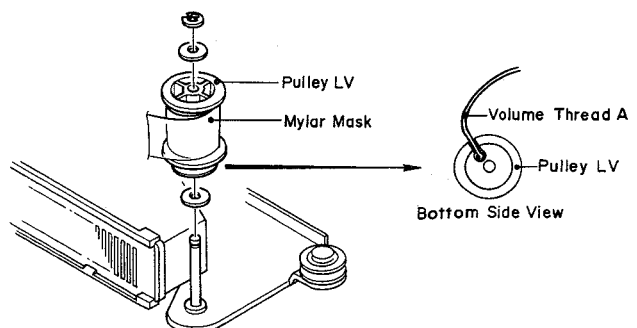

Fig. 5.2.6
- (6) Refer to Fig. 5.2.6. Remove an E-ring and a washer from the Mylar Mask Ass'y and detach Pulley LV. Insert the knot on Thread A into the notch of Pulley LV, and mount Pulley LV onto the shaft.